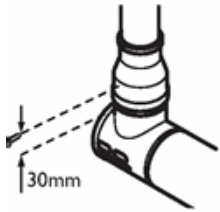
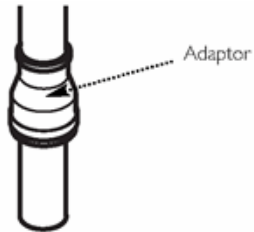

Fig. 21
Fig. 22
9. The 60Ø exhaust can now be fitted. Slide the adaptor over the plain end of the 60Øexhaust (Fig. 22) and engage the exhaust in the terminal. Slide the adaptor down over the spigot. Mark and drill the adaptor, using a 2mm bit, as shown in Fig. 21. Secure the adaptor to the spigot using one of the screws supplied.